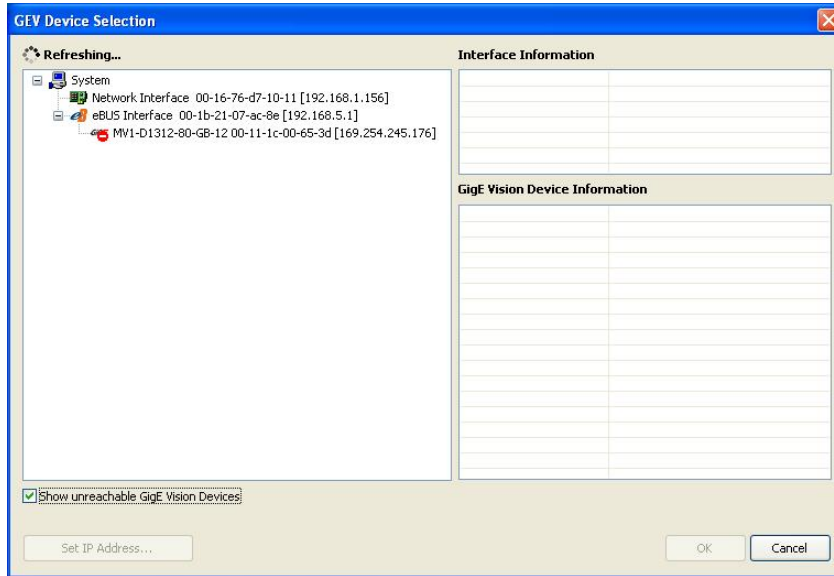

Figure 2.4: GEV Device Selection Procedure displaying the selected camera
- Click on the Select / Connect button in the GEVPlayer. A window with all detected devices appears (see Fig. 2.4). If your camera is not listed then select the box Show unreachable GigE Vision Devices.